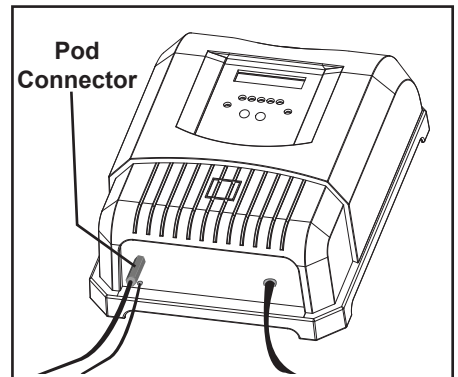

Figure 18. Pod Connector
17. Plug the pod connector into the power pack (see Figure 18).